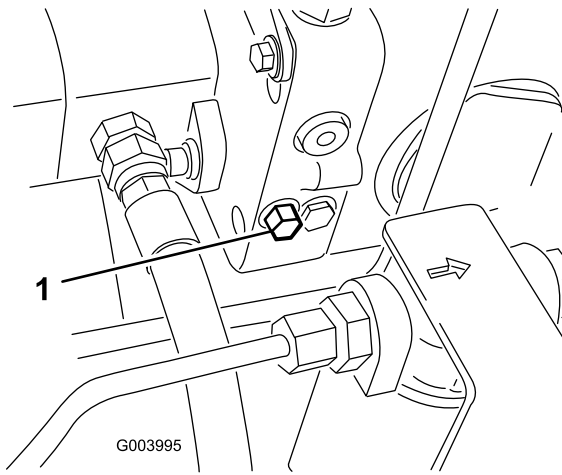

Figure 55
1. The bypass valve is located on the left side of the hydrostat (Figure 55). Rotate the bolt 1-1/2 turns to open and allow oil to bypass internally. Because fluid is bypassed, the machine can be moved slowly without damaging the transmission.